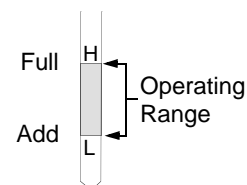

Figure 47
- Always keep the oil level between the 'H' (full) and the 'L' (add) marks on the dipstick. See Figure 47.
- SLOWLY pour oil into the crankcase until the oil level reaches the “FULL” mark on the dipstick. Refer to Figure 47.